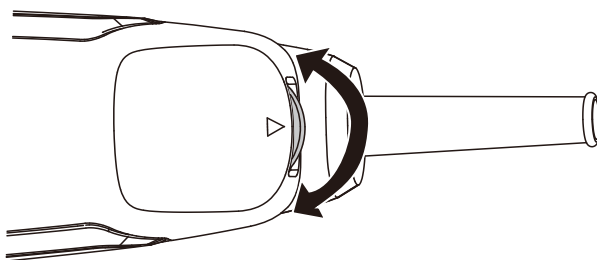

Figure 3
2. USING THE VARIABLE SPEED DIAL (SEE FIG. 3)